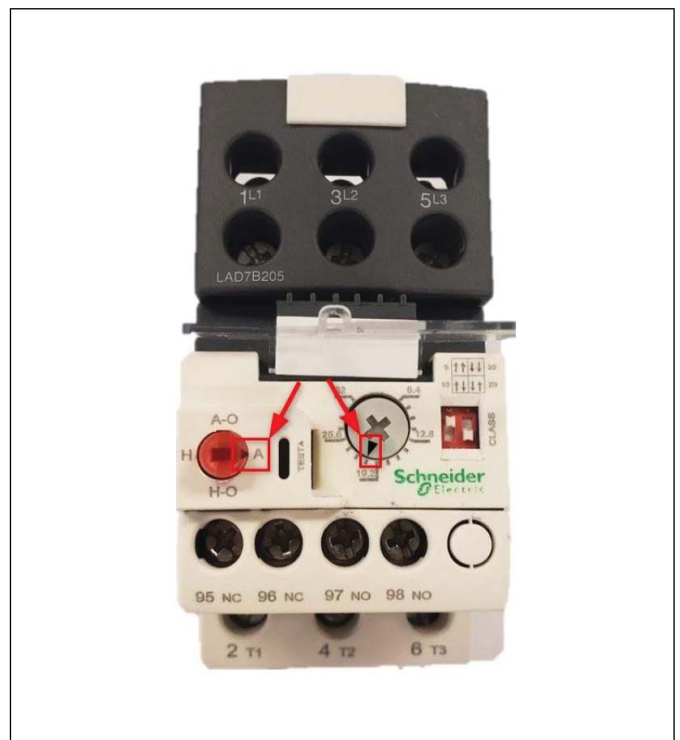

Figure 1
2. Refer to Figure 1, and set the two dials as follows: